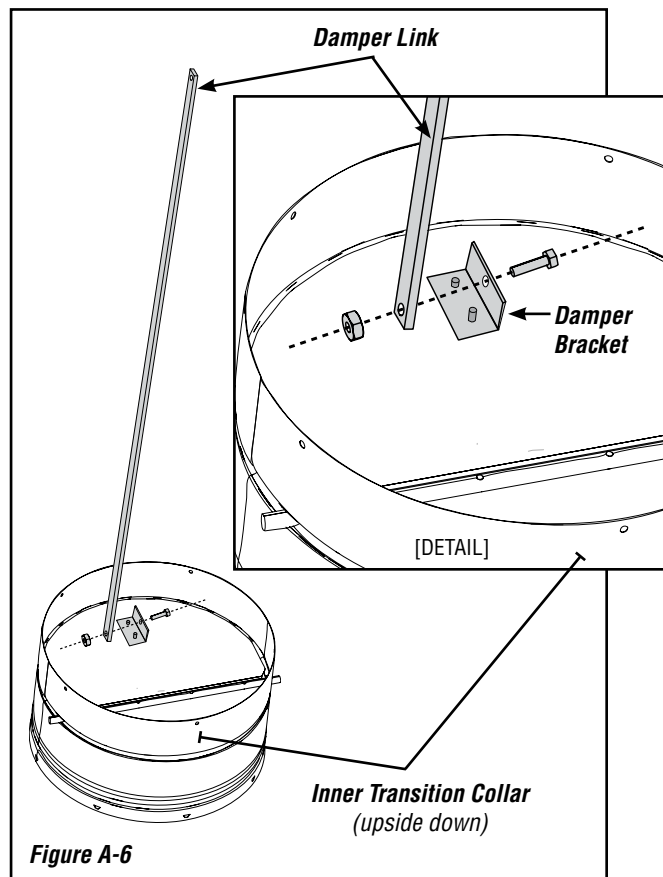

Figure A-6
- 4.1. Turn the inner transition collar upside down, and attach the damper link to the damper bracket with the enclosed 1/4-20 bolt and nut, as shown in **Figure A-6, below**.